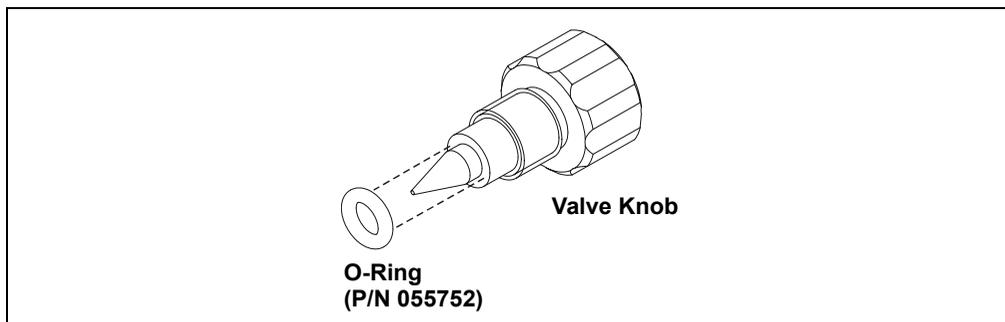

Figure 5-13. Waste Valve or Priming Valve O-Ring Replacement
4. If the O-ring is removed with the valve knob in Step 2, pull the O-ring off the end of the knob (see Figure 5-13). If the O-ring is not removed with the valve knob, insert a thin object (for example, the bent end of a paper clip) into the cavity in the pump head and carefully pull out the O-ring. **Do not scratch the cavity.**